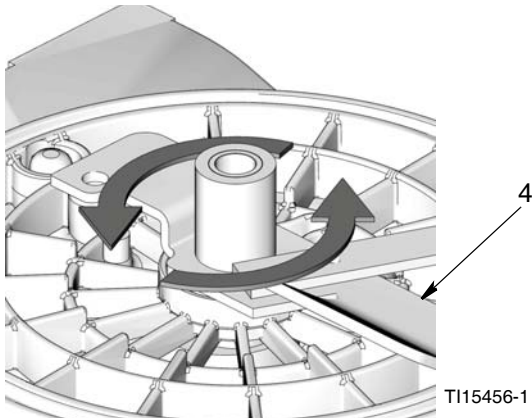

FIG. 13
4. Install stirring paddle (4) in base of G3. Turn paddle **counter-clockwise** until it is tighten securely in place (FIG. 13). (Illustration does NOT show low level paddle.)